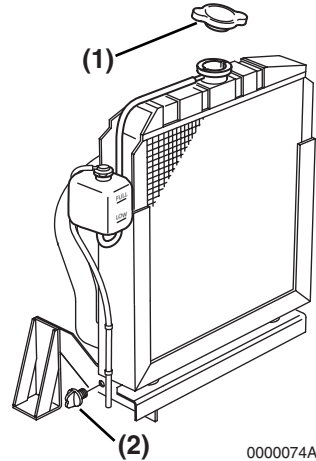

Figure 8-4
2. Remove the radiator cap (**Figure 8-4, (1)**).
3. Remove the drain plug or open the drain cock (**Figure 8-4, (1)**) at the lower portion of the radiator and drain the coolant.